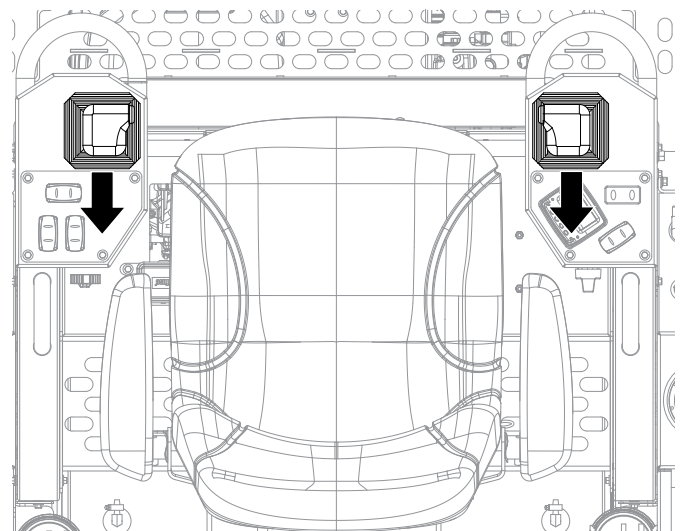

Figure 26. Joysticks (Reverse)
6. Pull both the left and right joysticks **backward** (Figure 26) and repeat steps 2 through 5 while substituting the word 'reverse' for 'forward'.